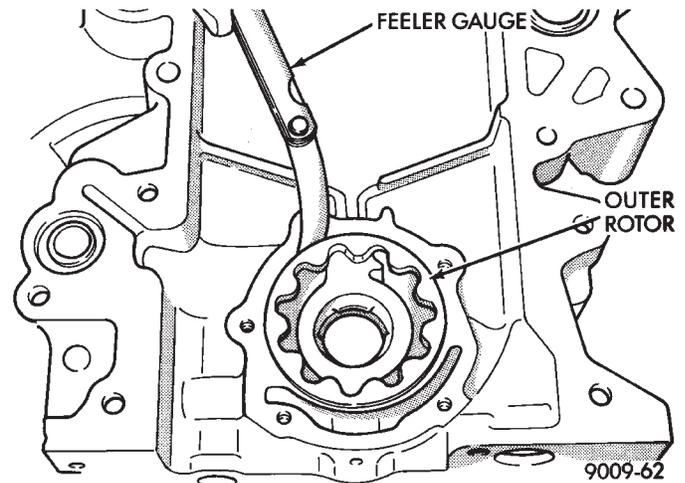

Fig. 10 Measuring Outer Rotor Clearance in Housing
(5) Slide outer rotor into CCC, press to one side with fingers and measure clearance between rotor and CCC (Fig. 10). If measurement is 3.9mm (0.015 inch) for the nichols rotor (8 lobe rotor), 5.6mm (.022 inch) or more, replace CCC only if outer rotor is in spec.